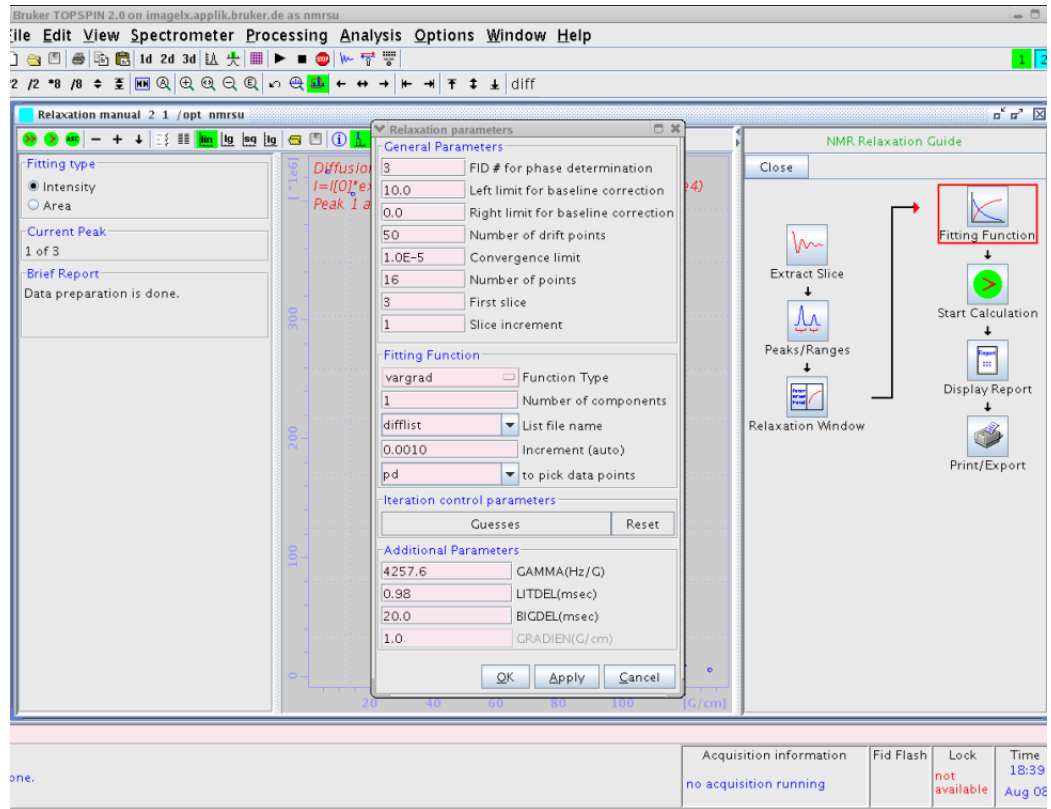

Figure 3.14 Relaxation Parameter Editor
- Click on the **Fitting Function** button. This will open a parameter editor as shown in Figure 3.14. This editor shows and allows all the relevant parameters for the fitting procedure (e.g. δ and Δ .) to be changed. Details about these parameters are described in "Parameter Dialog Box" on page 65. All of these parameters have been preset by *diff* and usually do not need to be changed.